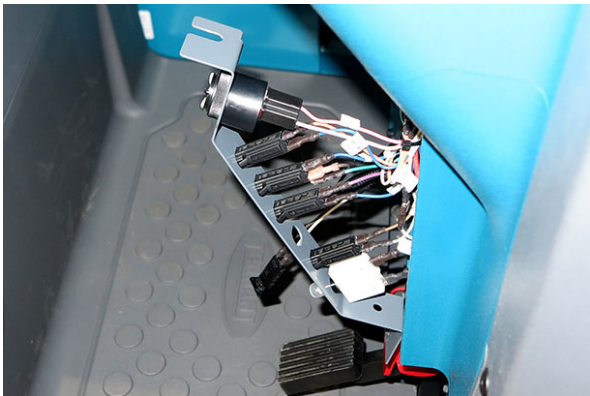

FIG. 3
- Remove both M8 hex screws securing the circuit breaker bracket to the machine. Set the hardware aside. (Fig. 3)
- Carefully pull the circuit breaker bracket out enough to access the main wire harness connections to the circuit breakers. Do not break harness connections to the circuit breakers when pulling the circuit breaker bracket from the machine. (Fig. 3)